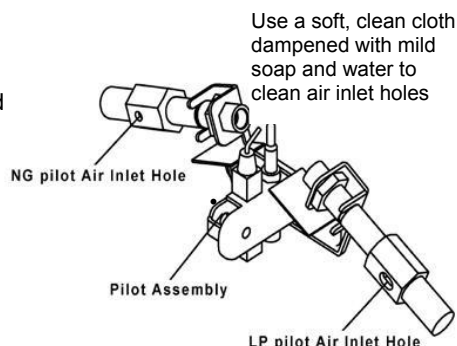

Figure 26 – Pilot Air Inlet Hole
6. In case any large clumps of dust have now been pushed into the burner. Repeat steps 3 and 4. Clean the pilot assembly also. A yellow tip on the pilot flame indicates dust and dirt in the pilot assembly. There is a small pilot air inlet hole about two inches from where the pilot flame comes out of the pilot assembly (see Figure 26). With the unit off, lightly blow air through the air inlet hole. You may blow through a drinking straw if compressed air is not available.